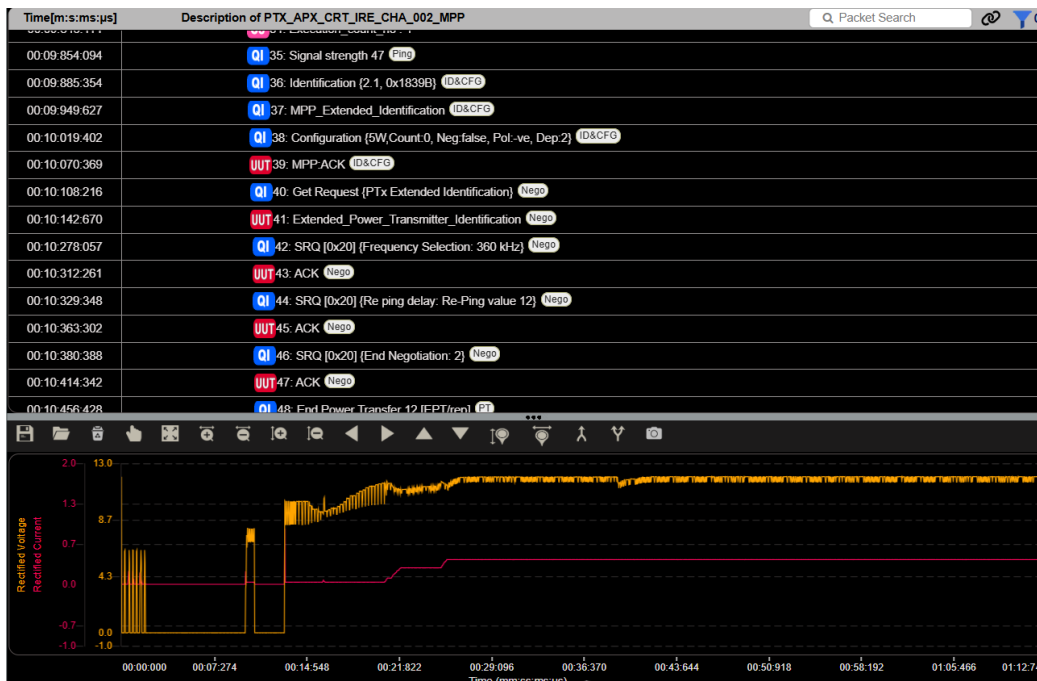

FIGURE 8.120: LOAD AUTHENTICATION TEST CASE
1. Load any authentication test case as shown in the example in Figure 8.120 below.